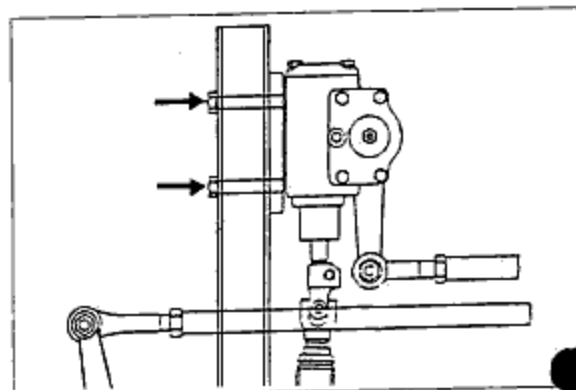

Fig. 10-18
- (1) With the wheel in the straight-ahead position, remove the drag link and pitman arm.
- (2) Install the dial gauge and magnetic base as shown in the figure 10-18, and then measure a backlash by moving the pitman arm.